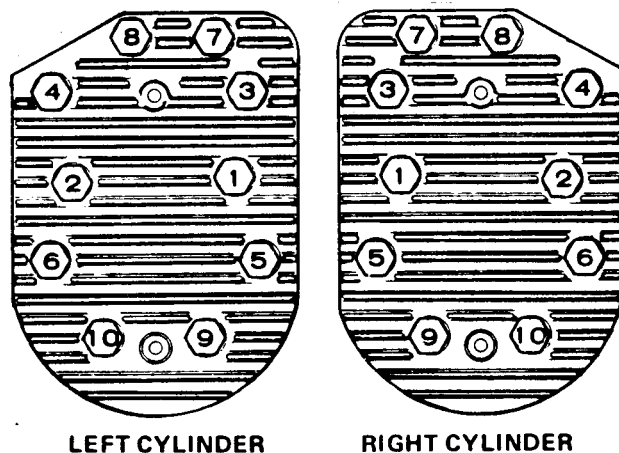

FIGURE 23. CYLINDER HEAD TORQUE TIGHTENING SEQUENCE
4. Place heads in position and follow head torque tightening sequence shown in Figure 23. Start out tightening all nuts to 5 ft.-lb, then 10 ft.-lb, etc., until all nuts are torqued 17-19 ft.-lb.